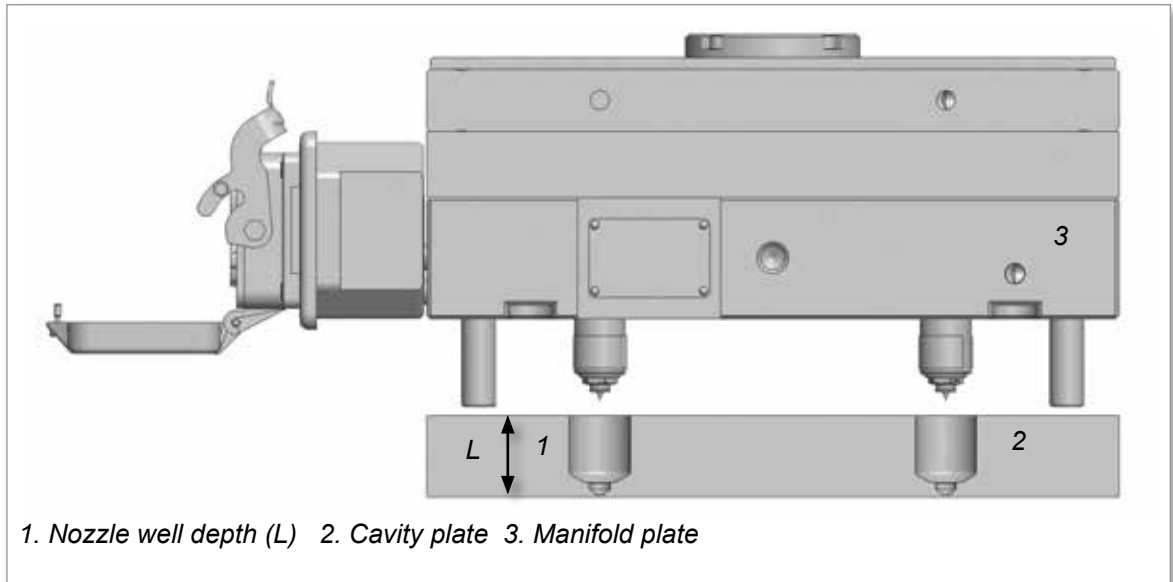

Figure 7-1 Nozzle depth
Check that the nozzle well depth (L) in the cavity plate is to *Mold-Masters* specifications. See Figure 7-1.